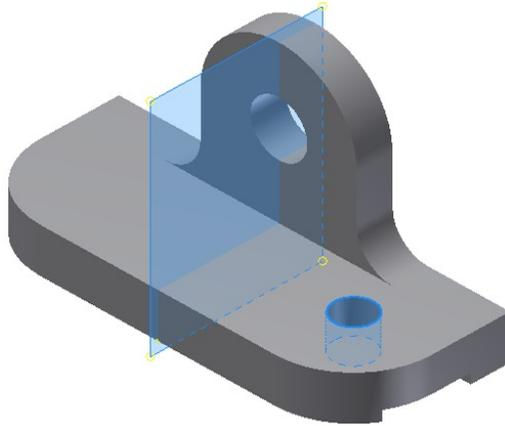

Figure 6-162 Model with the hole Feature
7. Choose the **OK** button to create the hole and exit the **Hole** dialog box. The hole is displayed in Figure 6-162.